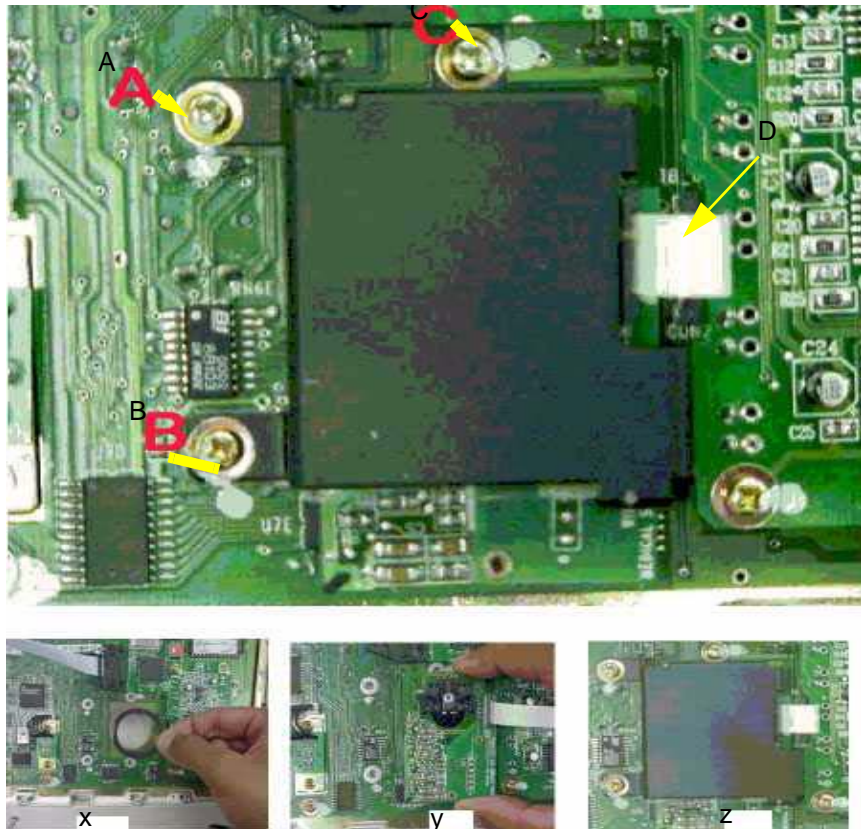

Figure 8-4 Optical Trackball Assembly
- 1.) Assemble TB Base Pad 2230750 (x). Refer Figure 8-4
- 2.) Assemble Optical Trackball PCB Assembly 2224019 (y) refer Figure 8-4
- 4.) Assemble Trackball bracket assembly 22244032 (z) refer Figure 8-4
- 6.) Fix the FPC cable 2139504 (D) as shown in Figure 8-4